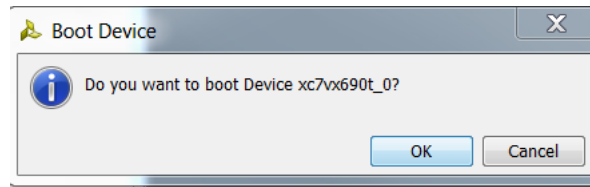

Figure A-13: **Boot Device**
15. Click **OK** to confirm booting the device (see Figure A-13).